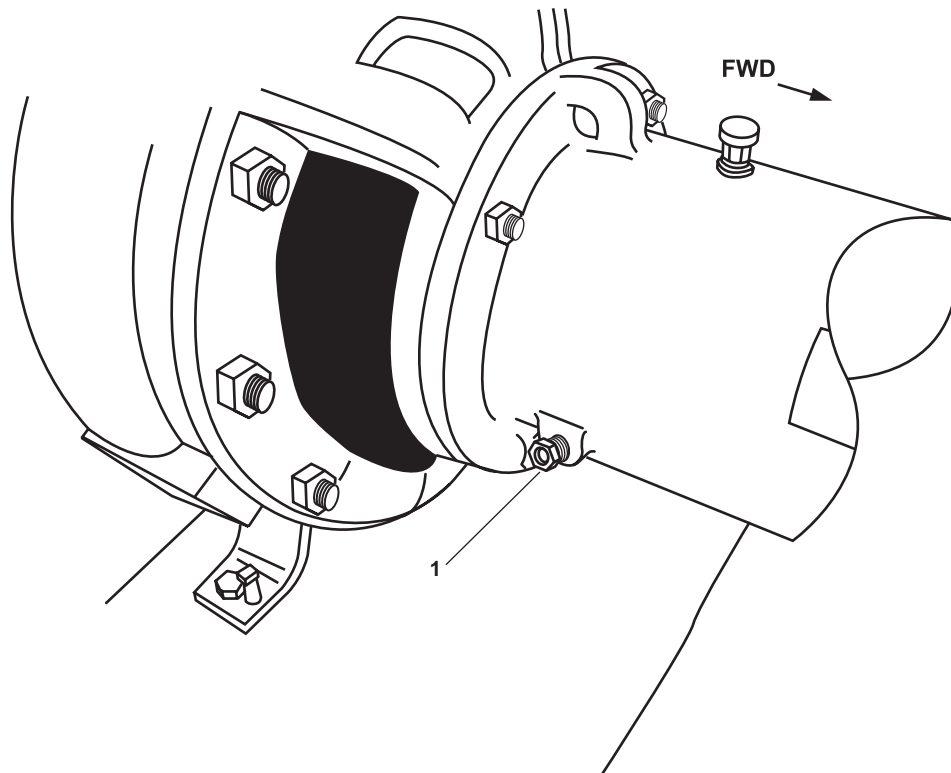

Figure 3. Diesel Engine-Driven Firefighting Pump – Oil Sight Glass
3. Fill the diesel engine-driven firefighting pump with mineral oil (ISO non-detergent 68) at the breather (figure 2, item 2) until the oil level is in the center of the sight glass (figure 3, item 1).